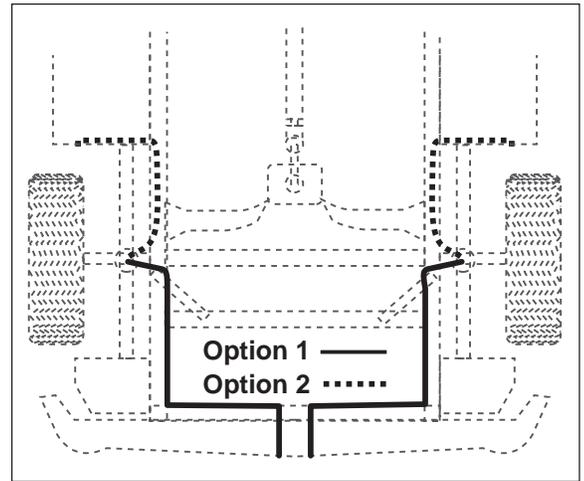

Figure 5
16. Select location on the vehicle for the air inflation valves (Figure 5). The location can be on the bumper or on the body of the vehicle, but be sure that it is protected so that the valve will not be damaged and will still be accessible for the air chuck.